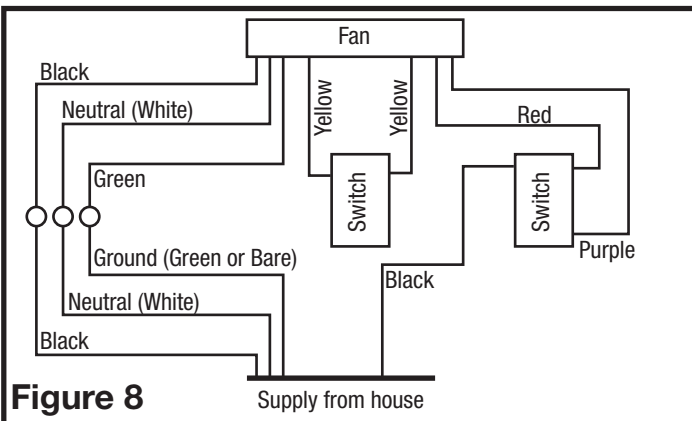

Figure 8
2. **Continuous Ventilation:** For two speed fans wired for continuous ventilation, connect the White wire of the fan to the White (Neutral) wire from the power source. Connect the ground wire from the house to the green wire from the fan housing. Connect the Black wire of the fan to the Black wire (Hot) from the power source. Using a properly grounded standard duplex toggle switch (such as Leviton 5224-2W, not included) connect the Black wire from the supply to one side of the top and bottom switch. Connect the Red wire (light) from the fan housing to the other side of the top switch and connect the Purple wire (night light) from the fan housing to the other side of the bottom switch. Using a second properly grounded standard duplex toggle switch, connect the Hot Yellow wire from the fan to the input of the switch. Connect the second Yellow wire from the fan to the output side of the switch. Closing the switch will change from normal to high speed (Figure 8).